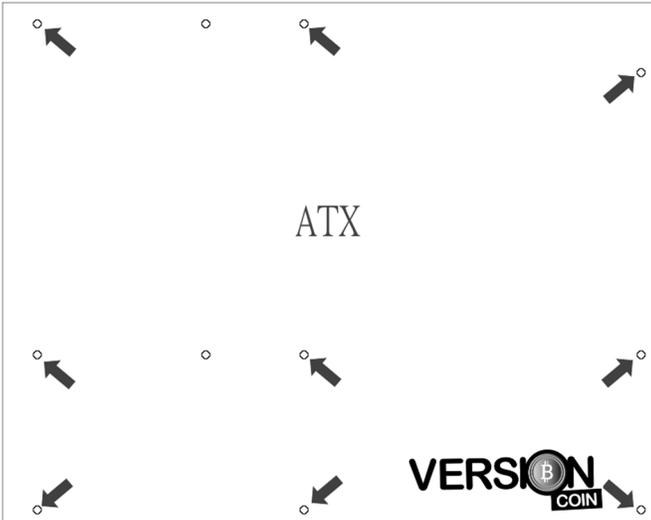
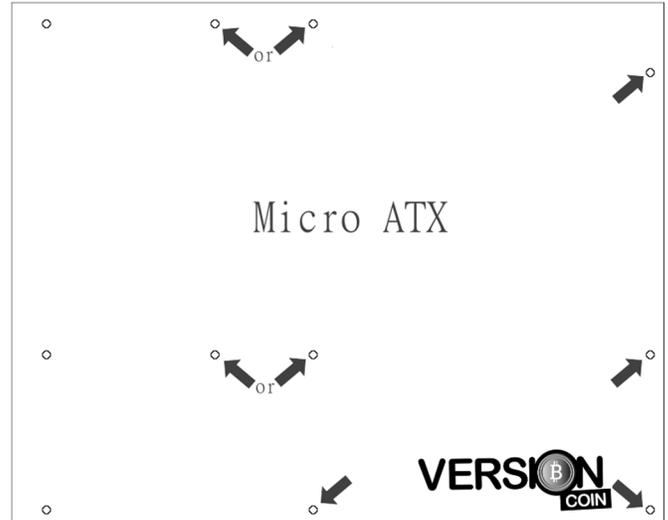
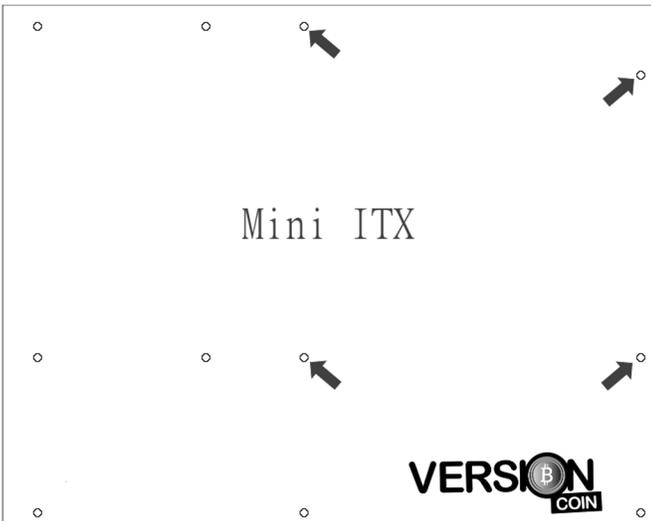

Figure 2: ATX Common Screw Locations
Figure 3: Micro ATX Common Screw Locations
Figure 4: Mini ITX Common Screw Locations
2. Determine which screw holes are appropriate for your motherboard application by lining up the motherboard with the tray. Refer to **Figure 2** for ATX, **Figure 3** for Micro ATX, and **Figure 4** for Mini ITX on the next page for common screw locations.